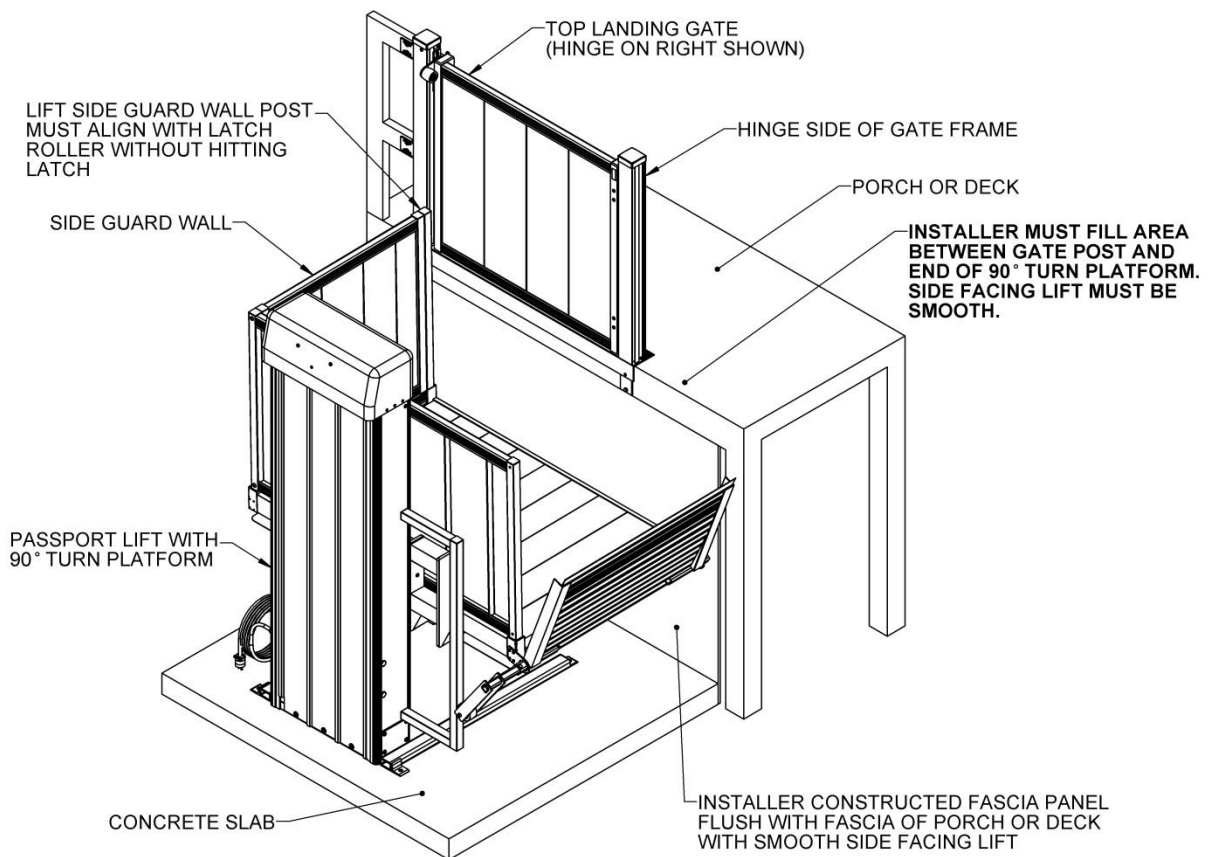

FIG. 6.1B
- ✋ When using a Top Landing Gate with a 90° Turn Platform, the gate latch must be on the same side as the side guard wall. Determine which side the lift platform will be accessed from and which side will have the side guard wall **before ordering** (FIG. 6.1B).
- ✋ ⚠ The Top Landing Gate will not span the entire length of a 90° Turn Platform at the upper landing. It is the contractor's responsibility to fill this area completely, making sure the side facing the lift is smooth, and reinforce all existing handrails and guardrails structurally if needed (FIG. 6.1B).